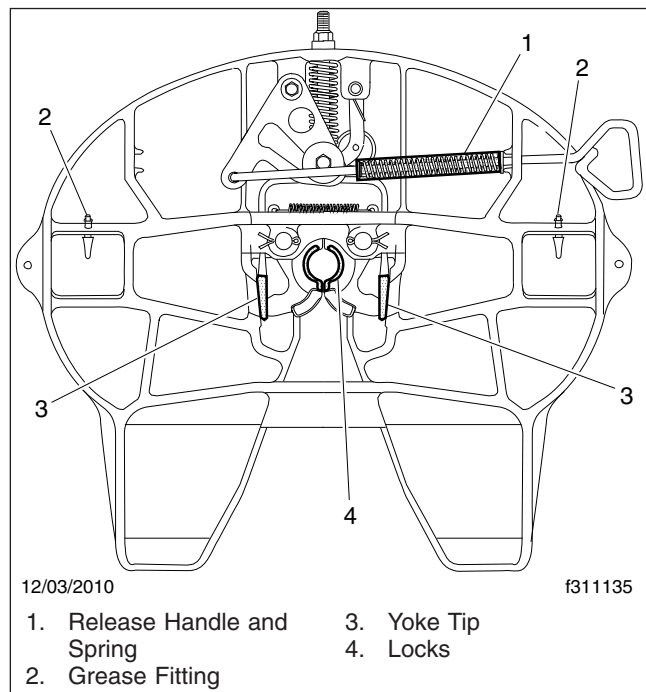

Fig. 8, Holland FW35 Fifth Wheel, Grease Lubrication
3. Grease the yoke tips, locks, and the release handle and spring; see Fig. 8. Grease the mounting bracket supports through the grease fittings. A "low temp" grade grease rated for -30°F (-34°C) or lower such as Cato Oil and Grease #5213, Craftsman Chemical Co. #LTF 2, Mystic LP-200, or equivalent is recommended.